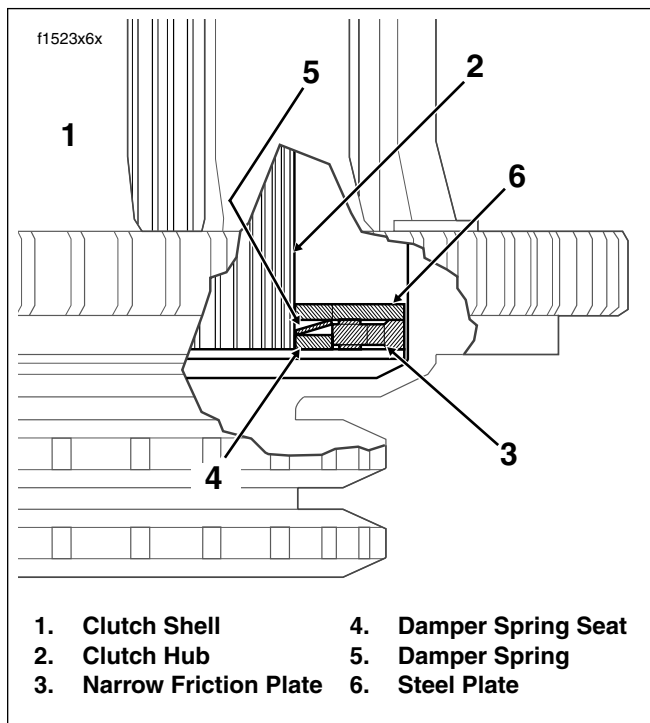

Figure 6-2. Clutch Pack Stack-Up (Cut-Away View)
4. Install damper spring on clutch hub with the concave side up (facing opposite damper spring seat). See Figure 6-2.
9. Install damper spring on clutch hub with the concave side up (facing opposite damper spring seat). See Figure 6-2.